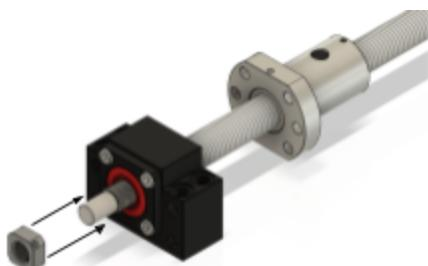

Figure 12.6
10. Screw the retainer nut onto the ball screw behind the BK12 as shown in Figure 12.6 and 12.7. Ensure it is securely tightened against the BK12.